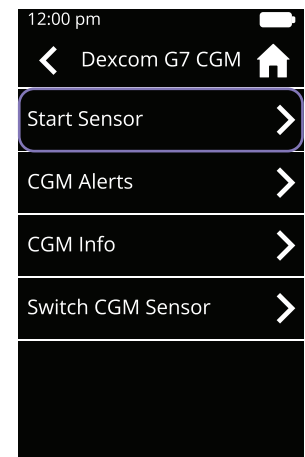

Figure 82
- f. Return to the CGM menu on your iLet Device. Tap **Start Sensor** (see Figure 82)